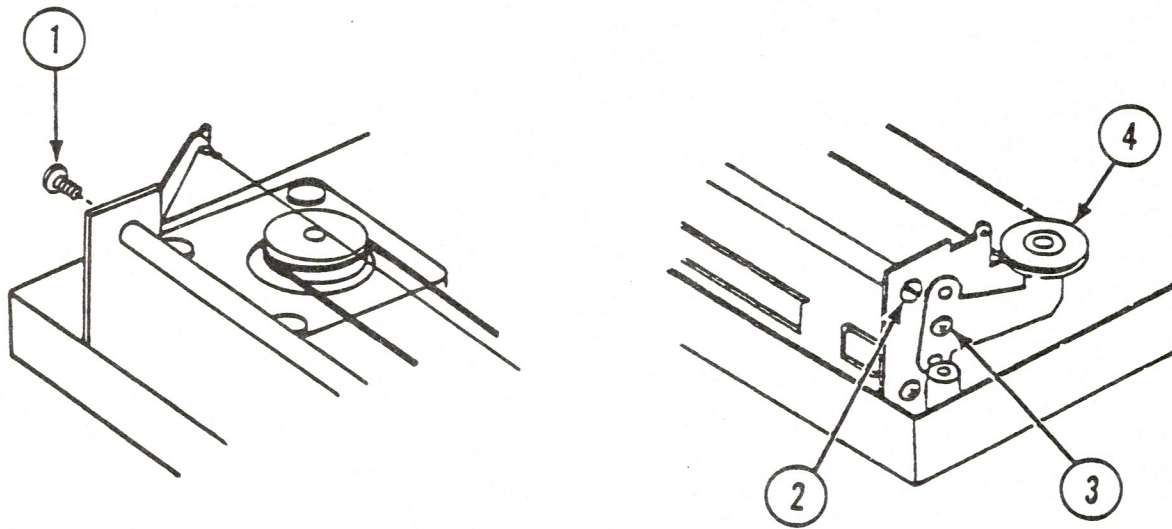

FIGURE 6
12. Loosen the screw on the tension arm. (See Figure 6, #3.)
13. Slip off the wire from the idler pulley. (See Figure 6, #4.)